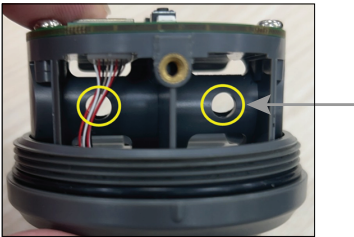

Figure 4.5 To remove the battery, push it out of its holder through the access hole, indicated by the arrow, using a nonconducting tool (plastic or wood).
3. Remove an existing battery by pushing it out of its holder using a nonconducting tool (plastic or wood), through the access hole indicated by the arrow in Fig. 4.5, below.